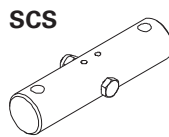

Fig. A2.05a
- Perm. anchoring force per DW 15 = 90 kN. (Fig. A2.05a)